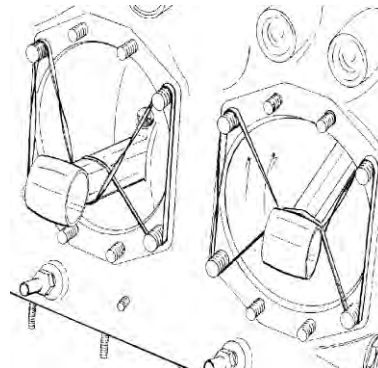

Figure 20
- (2) Make a loop around the cylinder base studs and connecting rod using a rubber band or the cylinder base seal (removed during cylinder removal) as shown in Figure 20.